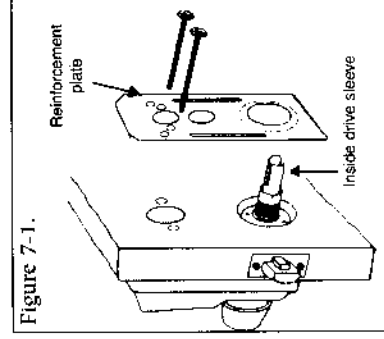

Figure 7-1.
1. Place the reinforcement plate over the inside drive sleeve as shown in Figure 7-1.